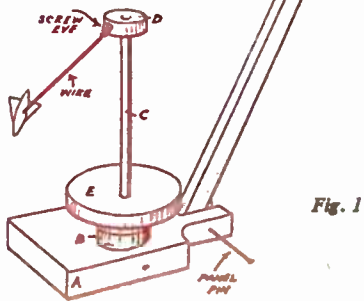

Fig. 1
Glue the two discs (B) to (A) in the position shown and glue disc (D) to the end of the spindle (C). The large disc (E) is glued lower down as shown. Screw two 3in. diameter wood wheels to (A) and attach the little planes to (D) by means of screw eyes and 3 $\frac{1}{2}$ in. lengths of wire as shown in Fig. 1.